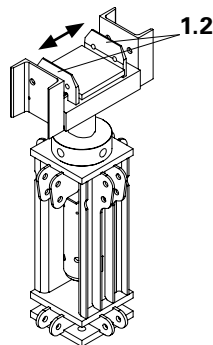

Fig. 32
4. Extend centering jaws (1.2) by moving as far as possible. (Fig. 32)